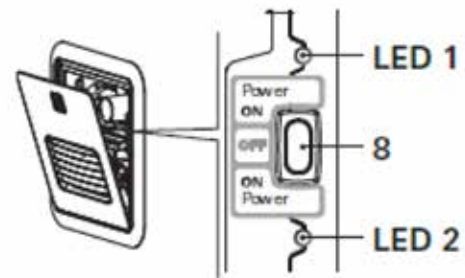

Fig. 8
2. To switch on the appliance, switch the POWER switch (Fig. 8 – 8) to one of the two “ON” Positions.
- When the green power ON LED 1 (Fig. 8 – LED 1) is lit, the appliance is switched on.
- If the red error code LED 2 (Fig. 8 – LED 2) is lit / flashes, there is a fault or warning